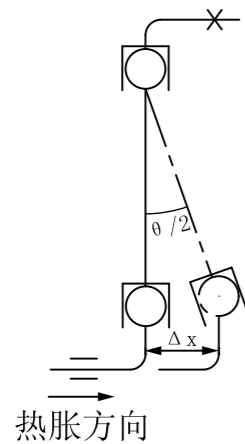
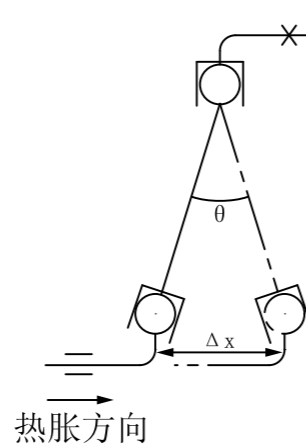

图2 零预折屈角
图3 初预折屈角
2、球头的最大折屈角  $\theta$  本公司设计为  $\pm 15^\circ$ ，试算一下当  $\theta \leq 15^\circ$  时能否满足管道补偿要求，如果满足则可按图2形式布置无需预拉；反之则应按图3形式布置，应对球补进行预拉，调整球头到所需初始安装角度，同时还需注意安装的球体角位移折屈角  $\theta$  不超过产品规定的角度，试算一下应使初始安装角度能够满足管道补偿要求。
- The maximum fold bending Angle  $\theta$  of the ball is  $\pm 15^\circ$ , try work it out whether when  $\theta \leq 15^\circ$  can meet the requirements of pipeline compensation, if satisfied, it can be arranged according to figure 2 without prepositioning; if not satisfied, it can be arranged according to figure 3 with prepositioning; Adjust the ball head to the required initial installation Angle, it is also important to note that the ball angular displacement fold bending angle  $\theta$  is not exceeding the specified Angle of the product. Try to calculate the initial installation Angle to meet the pipe compensation requirements.
FIG. 2 zero pre-folding bending Angle
FIG. 3 preliminary fold bending Angle